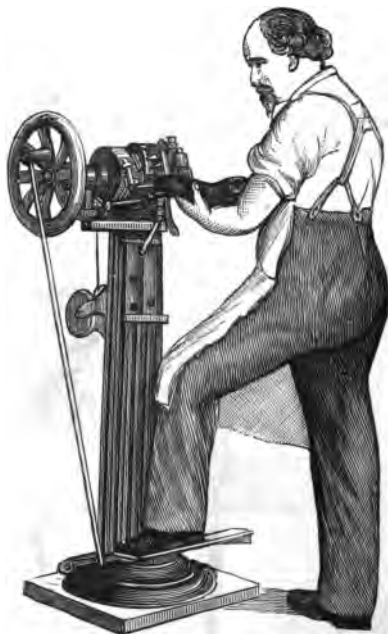

Fig. 85.—WELT OR FOREPART STITCHING MACHINE.
**Welt or Forepart Stitching Machine.**—This machine (Fig. 85) will stitch the forepart of a welted boot or shoe precisely the same as it would be stitched by hand labour. The boot is fixed on the table and can be stitched either with or without a last. The machine is furnished with a *curved needle* and an awl. The holes are first pierced by